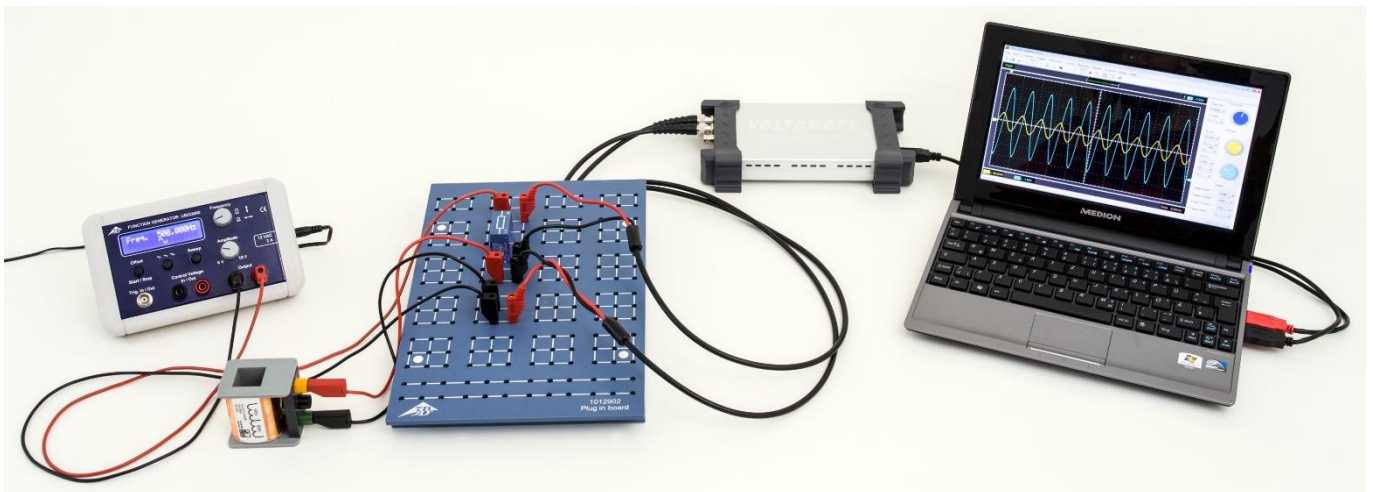

Fig. 1: Experiment set-up
- Set up the measuring equipment (Fig. 1) as shown in the circuit diagram (Fig. 2) with resistor  $R=10\ \Omega$  and a 1200-turn coil ( $L = 23\ \text{mH}$ ,  $R_L = 19\ \Omega$ ).